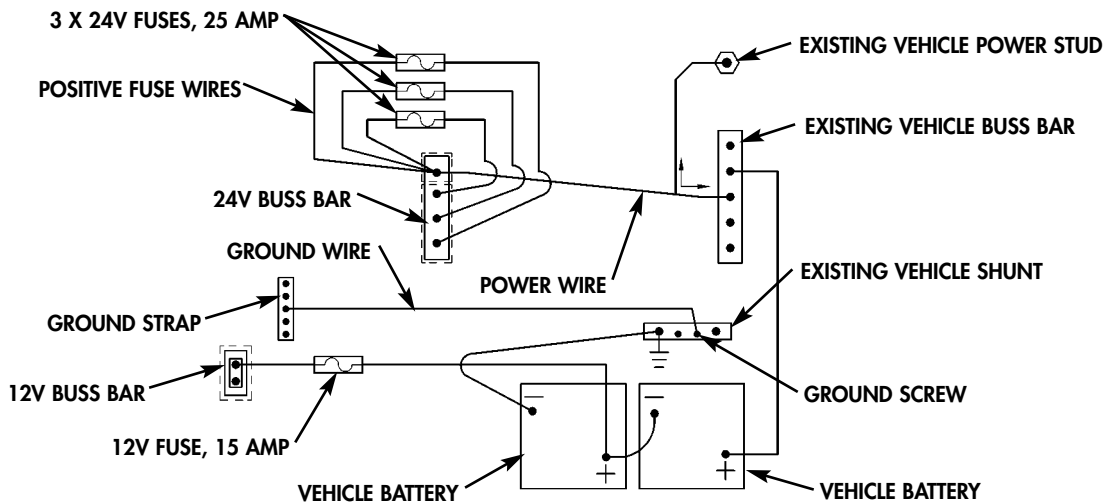

Figure 5-10.
- Refer to figure 5-10 for wiring overview.
- 6-1.** Locate, mark, and drill 2.00-in. diameter hole (3) in upper right corner of rear wall of battery box.
- 6-2.** Install grommet (4) in hole (3).
- 6-3.** Secure terminal link (8) and fuse wire (7) to 12V terminal board (1) with two locknuts (6) and install cover (5).
- 6-4.** Route wire (2) through battery box hole (3).